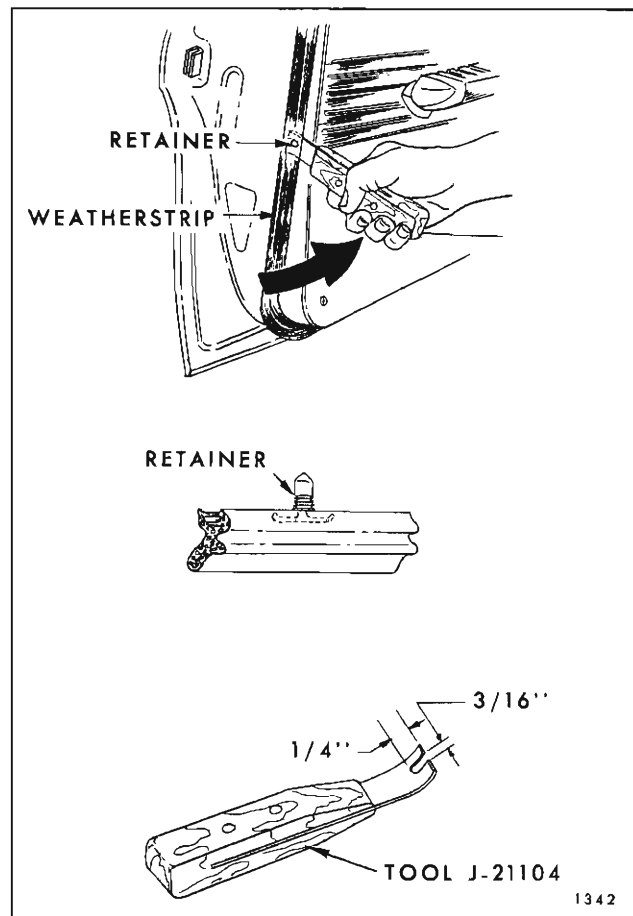

Fig. 5D10—Door Weatherstrip Removal
3. Insert weatherstrip removal tool J-21104 between weatherstrip and door at fastener locations and engage slot in tool with fastener stud; then carefully pry fastener out of door piercing (Fig. 5D10). Perform this operation at each fastener location and remove weatherstrip.